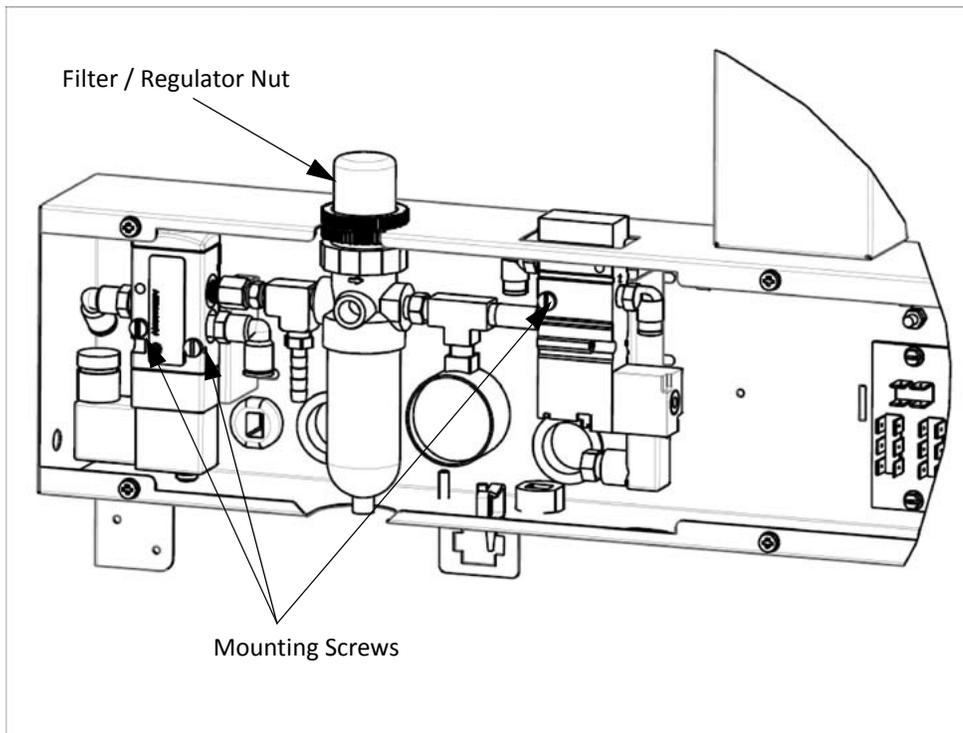

Figure 1.
8. Remove the air cylinder solenoid mounting screw(s) and filter/regulator nut, see Figure 1.